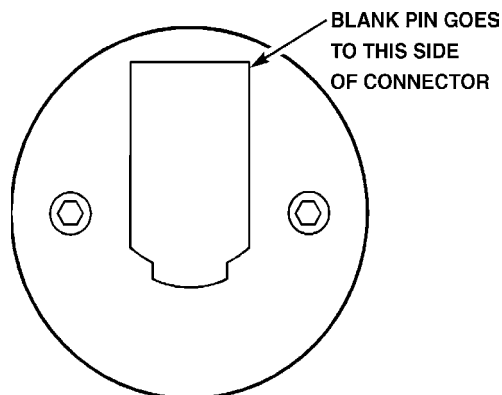

Fig. 5-2 Jog handle encoder.
3. Unplug the cable leading to the jog handle encoder. IMPORTANT! The blank pin side of the connector must face as shown in Fig. 5-2 when reconnecting; otherwise, damage may occur to the machine.